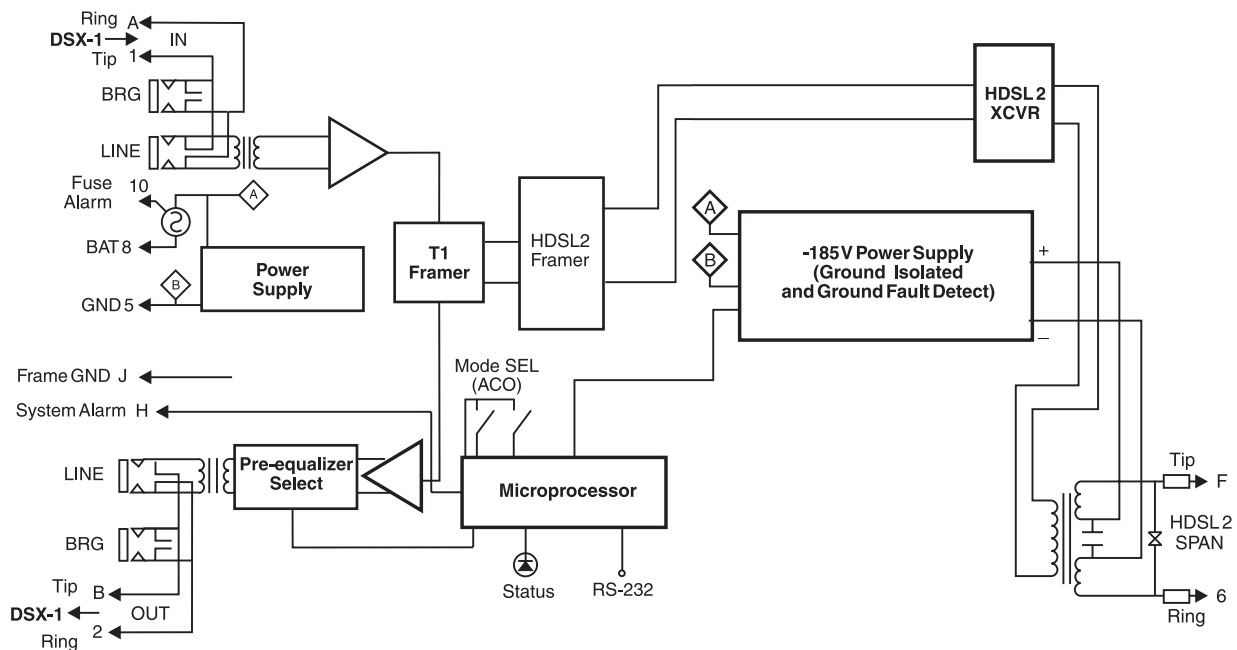

Figure 29. H2TU-C-319 Block Diagram
Figure 29 shows a block diagram of the H2TU-C-319. The H2TU-C-319 receives a 1.544 Mbps DSX-1 data stream from the DSX-1 digital cross-connect interface. The H2TU-C contains a DS1 frame synchronizer controlled by an 8-bit microprocessor that determines the type of framing on the DS1 stream and synchronizes with it. The H2TU-C recognizes Superframe (SF), including D4, or Extended Superframe (ESF) framing.